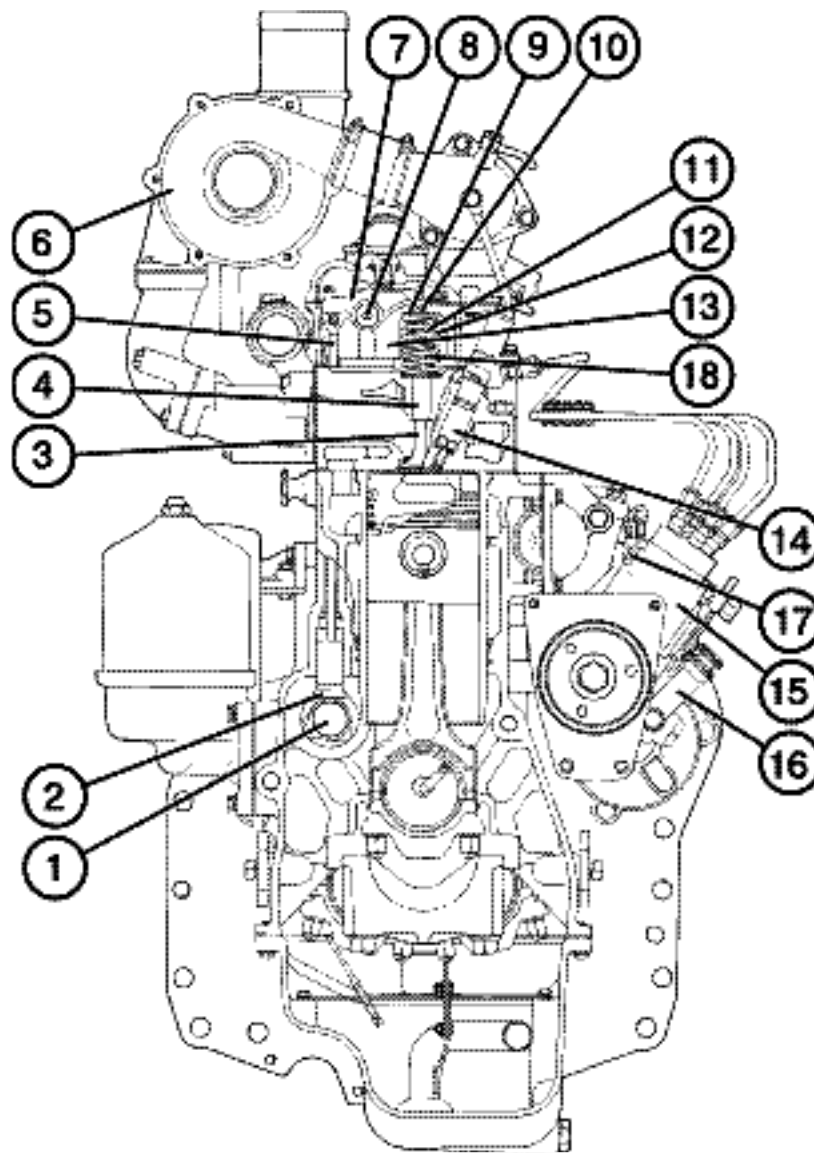

Fig. E-2. Д-260.2 diesel engine (cross section):
The cylinder head contains the inserted valve seats made of heat and abrasion resistant alloy. In the cylinder head, the injectors (14) (Fig. E-2) (three per head) are installed.
The **valve actuating and timing gear** (refer to Fig. E-2) consists of timing gears, camshaft, inlet and outlet valves, as well as their fitting and driving parts.
*) The distributive-type fuel pump shown in Fig. E-2 is not used at present. The Д-260.2/Д-260.2C/Д-260.2S2 engines are equipped with in-line pumps Type 363-40 (YAZDA Open Joint-Stock Company, Russia) or PP6M10P1f (Motorpal, Czechia).